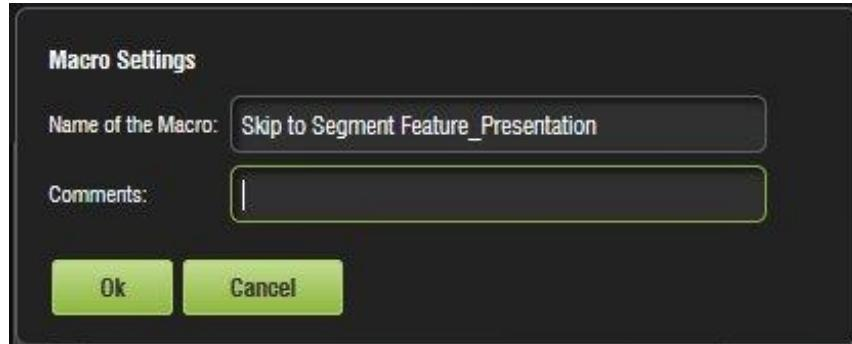

Figure 247: Macro Settings
- In the window that appears, name the macro “Skip to Segment X,” where X is the name of the segment that will begin playing upon execution of the macro and click OK (Figure 247).